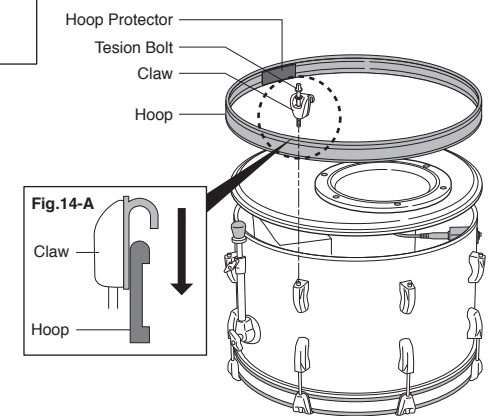

Fig.14
4. Place the Batter Side Head onto the Bass Drum shell with the Tru-Trac Bass Drumhead facing the top of the Bass Drum as shown (Fig. 14). Place the Bass Drum Hoop over the head with the flat side of the hoop facing down (Fig. 14-A).
5. Hook a Tension Rod and Claw on the Hoop above each lug and tighten the Tension Rods using the provided Drum Key (Fig. 14-A).